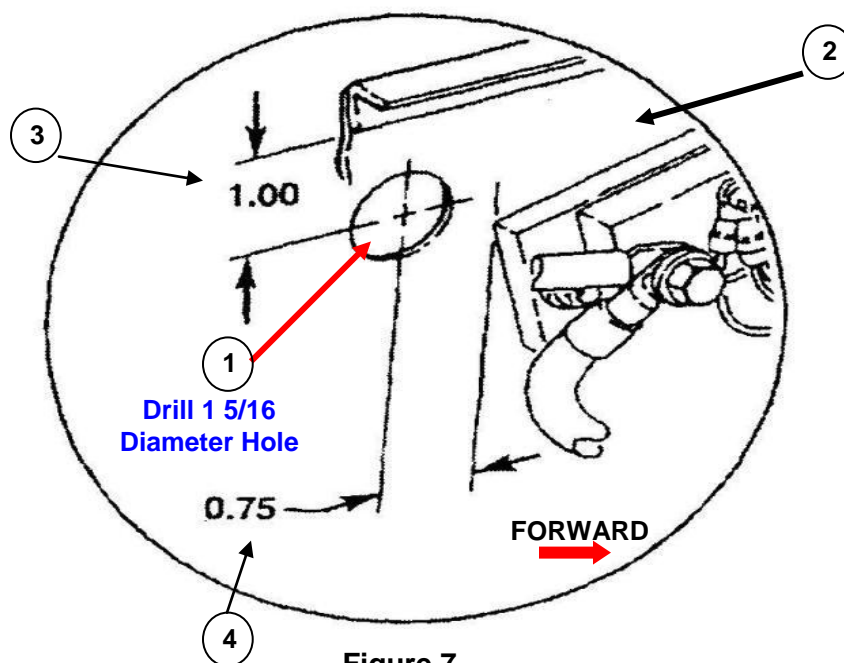

Figure 7
(1) Lay out and drill a 1 5/16 inch diameter hole (1) in vehicle battery box (2) as shown in **Figure 7** below. Utilize called out dimensions (3) and (4) for marking the correct location to drill the 1 5/16 inch diameter hole
(2) Deburr, repair and refinish all surfaces that have been cut, ground, or drilled using appropriate primer per MIL-DTL-53072.